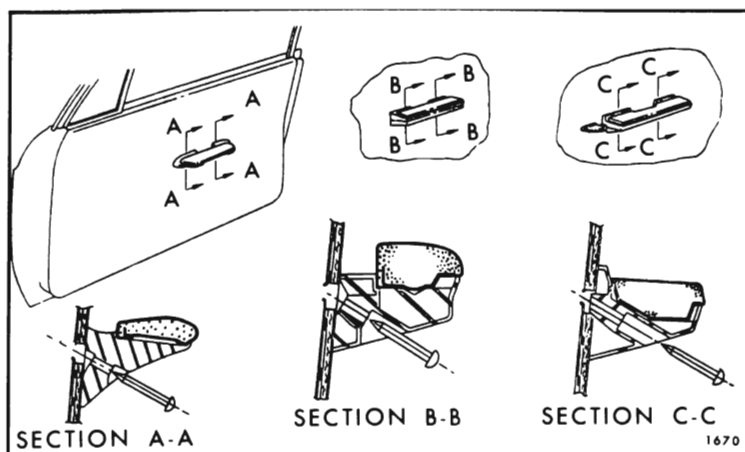

Fig. 7-8—Typical Applied-Type Door Arm Rests
There are two basic types of arm rests; those which are applied to the door after trim pad installation, such as shown in Figure 7-8, and those
To remove the applied type shown in Figure 7-8, merely remove the screws inserted through the arm rest base into the door inner panel. To remove the type assembled to the trim pad, remove the trim pad as described in a following procedure and remove the arm rest screws or stud nuts from the outboard side of the trim pad in a bench operation.
1. On styles with "applied" type door arm rests as shown in Figure 7-8, Section "C-C", remove arm rest as previously described. Then, remove screw securing handle to remote control spindle and remove handle.